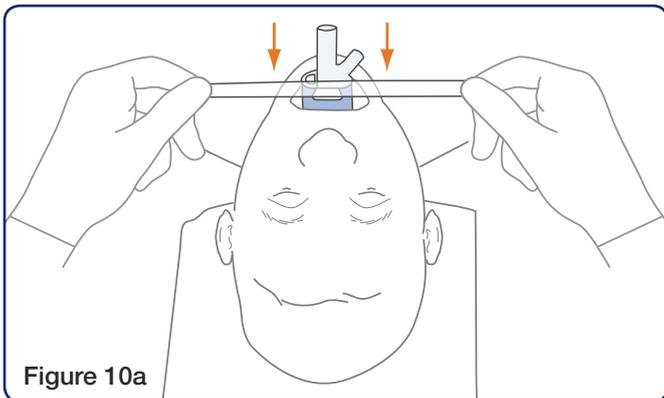
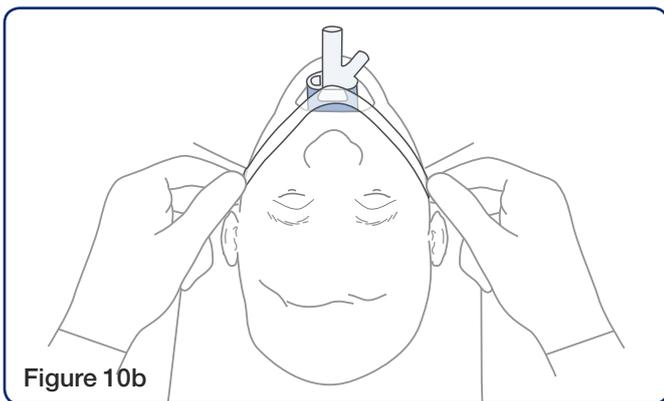

Figure 10a
Figure 10b
**Figure 10:** Fix the device in place using adhesive tape. Stretch the adhesive tape as shown (See Figure 10a) to ensure that the middle of the tape is pressed vertically downwards over the tab (Figure 10b).